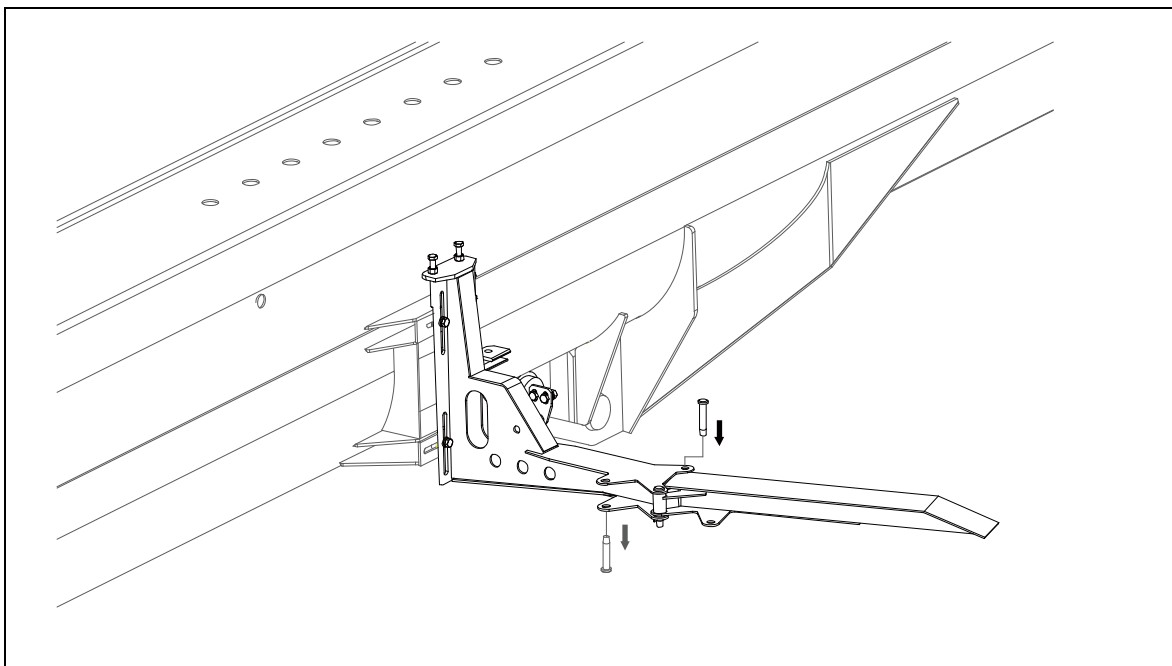

Figure 7-34 Extend the folding bracket
- G. Use the jib section 1. Remove the pin and extend the folding bracket. And secure it with the removed pin. Refer to Figure 7-34.